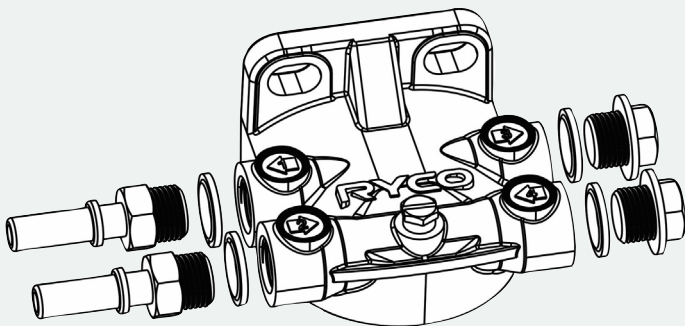

FIGURE 3
- 3 Install the Ryco fuel water separator head with metal quick connectors, blanking plugs and rubber bonded washers, as per Fig 3. Tighten blanking plugs (on Port 3 & 4) and quick connectors (on Port 1 & 2).